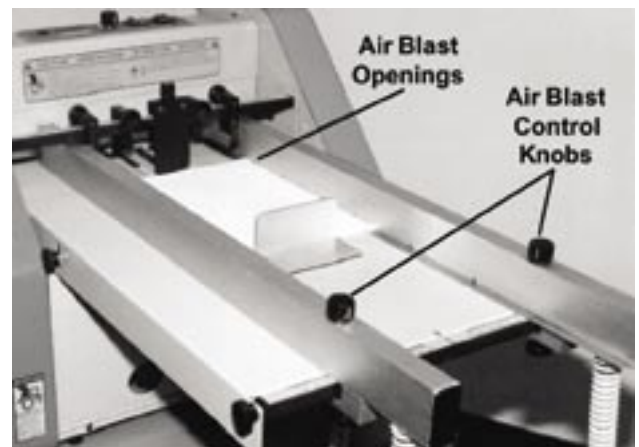

Fig 24
2. Turn on the air/vacuum pump. The air should float the bottom of the lift approximately 1/16 to 1/8" (16 to 32mm). Air blast can be controlled by adjusting the valve located at the end of each side guide (Fig. 24).